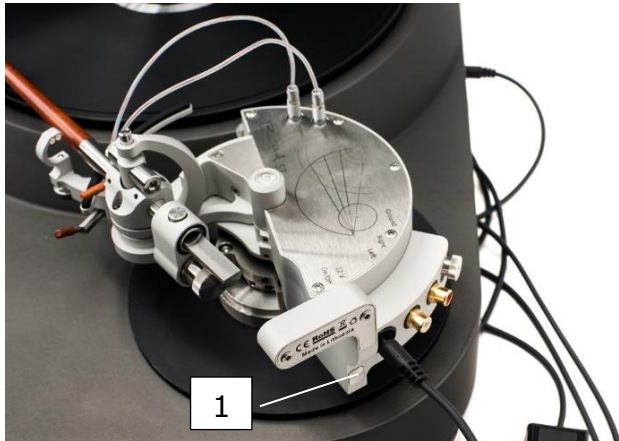

Figure 21
- Power on the tonearm by pressing On/Off button [1] (Figure 21).
- If you interrupted laser beam while playing the record, please press "On/Off" button [1] while playing (Figure 21).